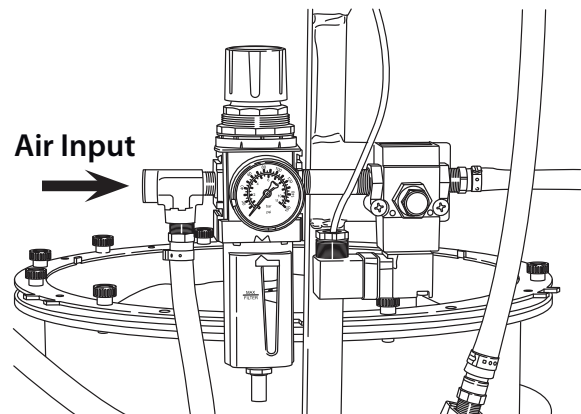

Figure 19
3. Attach a compressed air line into the pneumatic filter/regulator input. Be sure that there is 100 PSI sustained compressor capability. A 3/8 minimum I.D. hose size will be needed and a minimum of 20 CFM compressed air capacity. (Figure 19)